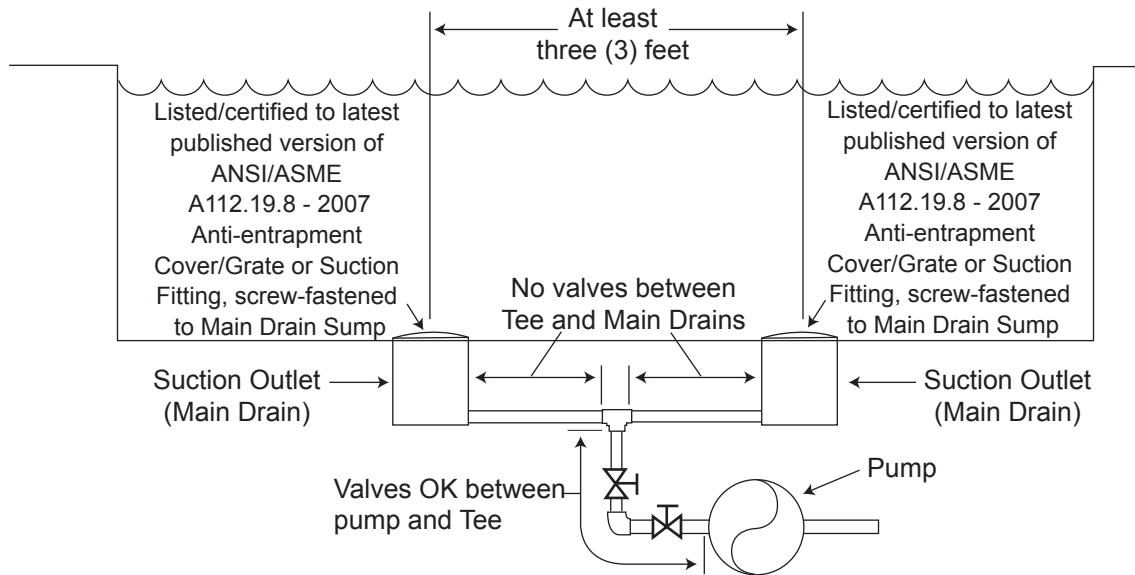

Figure 1. Number of Suction Outlets Per Pump
Number of Suction Outlets Per Pump - Provide at least two (2) hydraulically-balanced main drains, with covers, as suction outlets for each circulating pump suction line. The centers of the main drains (suction outlets) on any one (1) suction line must be at least three (3) feet apart, center to center. See Figure 1 on page 7.
The system **must** be built to include at least two (2) suction outlets (drains) connected to the pump whenever the pump is running. However, if two (2) main drains run into a single suction line, the single suction line may be equipped with a valve that will shut off both main drains from the pump. The system shall be constructed such that it shall not allow for separate or independent shutoff or isolation of each drain. See Figure 1 on page 7.